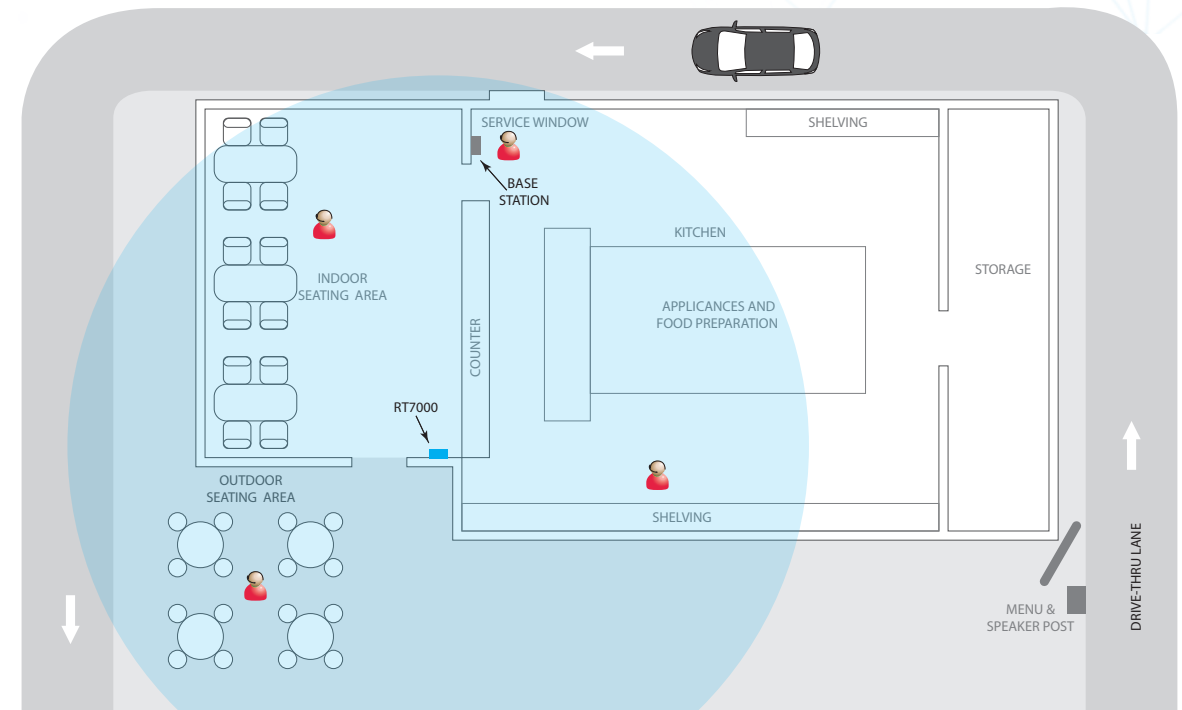

Fig. 1.3
- Choosing a good RT7000 (transceiver) mounting location is critical (see Step 5, Fig. 1.3, 1.4, and Component Notes on page 3 for more details). See page 4 for the required tools/equipment.
- 5 Critical Step:** Loosely mount the RT7000 in a central location for optimal coverage (until range tested in steps 9 & 10 using the Installation Wizard). For example, notice Fig. 1.3 and 1.4. They show two different store layouts with specific targeted areas where the headsets are primarily used. In these examples, the location selected for the RT7000 (represented by the small blue rectangle) provided the best coverage, indicated by the blue-circled areas. Each store required the RT7000 to be mounted in a different, yet central, location to provide the best all-around coverage tailored to the store's needs. Store layout and obstructions also affected placement and range. (see "Component Notes" on page 3 for more details on the RT7000 placement).